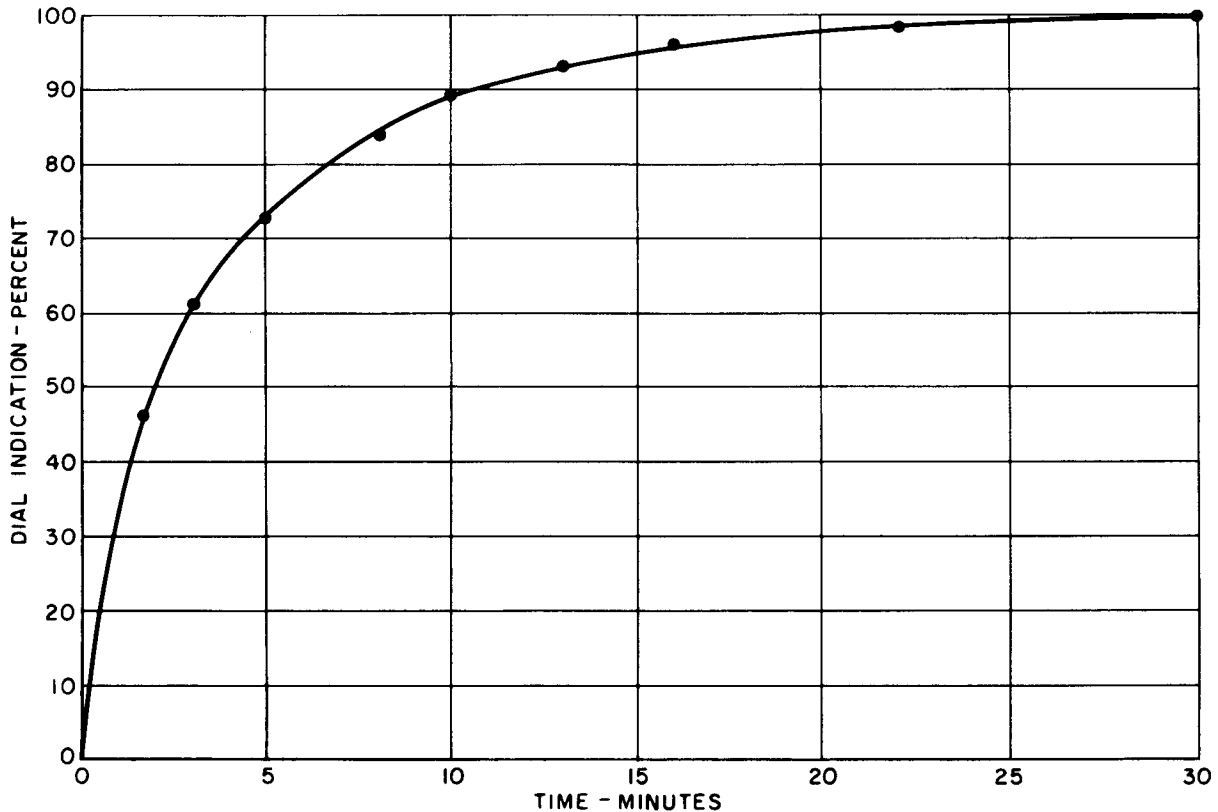

Fig. 4. Maximum current indicator response to a step change in current level
5. Time response for a step change in current level: See Fig. 4.